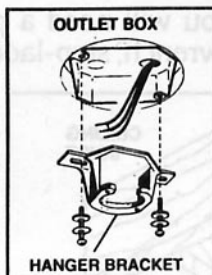

FIG. 5
Step 1. Secure the hanger bracket to the ceiling outlet box using screws, lock washers, and flat washers included with the fan. (Fig. 5)